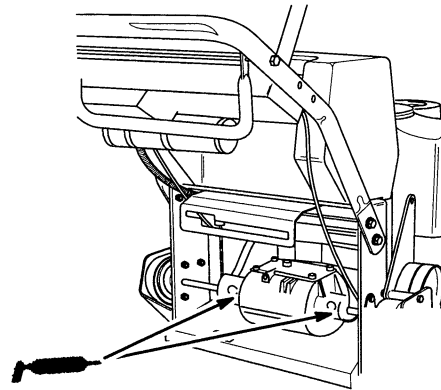

Figure 23
2. Lubricate the transmission couplers (Fig. 23).